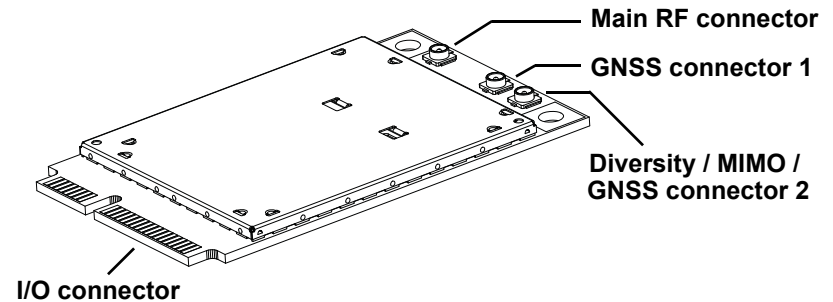

Figure 4-1: Module connectors
- Use Hirose U.FL connectors (3 mm x 3 mm, low profile; model U.FL #CL331-0471-0-10) to attach antennas to connection points on the module, as shown in Figure 4-1 on page 43.
- Connect to system ground using the two mounting holes at the top of the module (shown in Figure 4-1 on page 43).